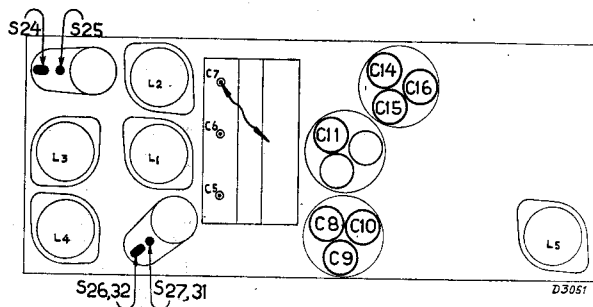

Fig. 4
6. Adjust successively to maximum output (S27, S31), (S26, S32) and S24. (See fig. 4).
8. Adjust S25 to maximum output. (See fig. 4).
3. Short circuit C7 (see fig. 4).
6. Trim C8 and C11 to maximum output (see fig. 4).
8. Trim C14 to maximum output (see fig. 4). (The first maximum starting from minimum capacity is the right one).
2. Short circuit C7 (see fig. 4).
7. Trim C9 to maximum output (see fig. 4).
9. Trim C15 to maximum output (see fig. 4).
3. Turn C10 to minimum capacity (see fig. 4).
9. Trim C16 to maximum output (see fig. 4).